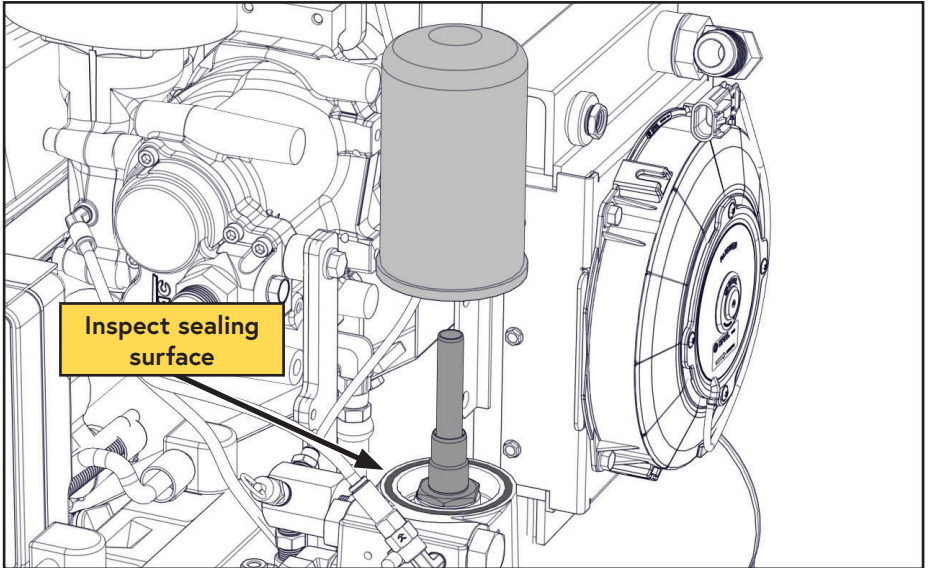

Figure 43 — Coalescing filter
- Remove the spin on coalescing filter by turning it counterclockwise (Figure 43).
- Clean the gasket sealing surface and inspect it for damage. The surface must be free of old gasket material and smooth to ensure a good seal (Figure 43).